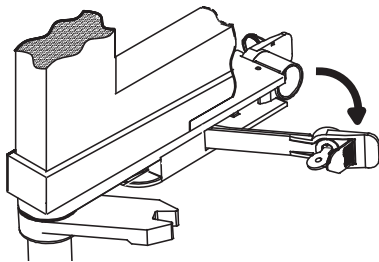

Fig.19
- 10) Free the mechanical release (fig. 19) referring to paragraph 7.2 .